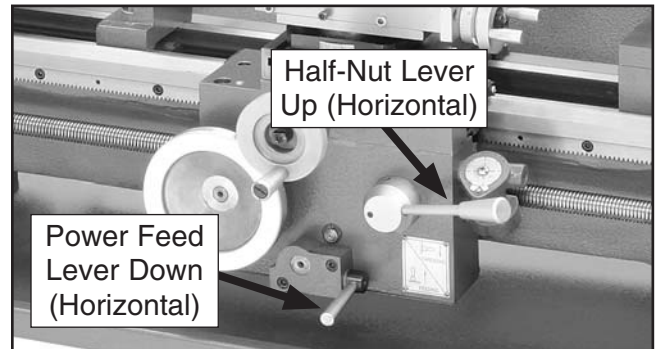

Figure 9. Half-nut and power feed lever positions for Test Run.
5. Move the half-nut lever up to disengage the half-nut, and push the power feed lever down to disengage the carriage power feed, as shown in **Figure 9**.